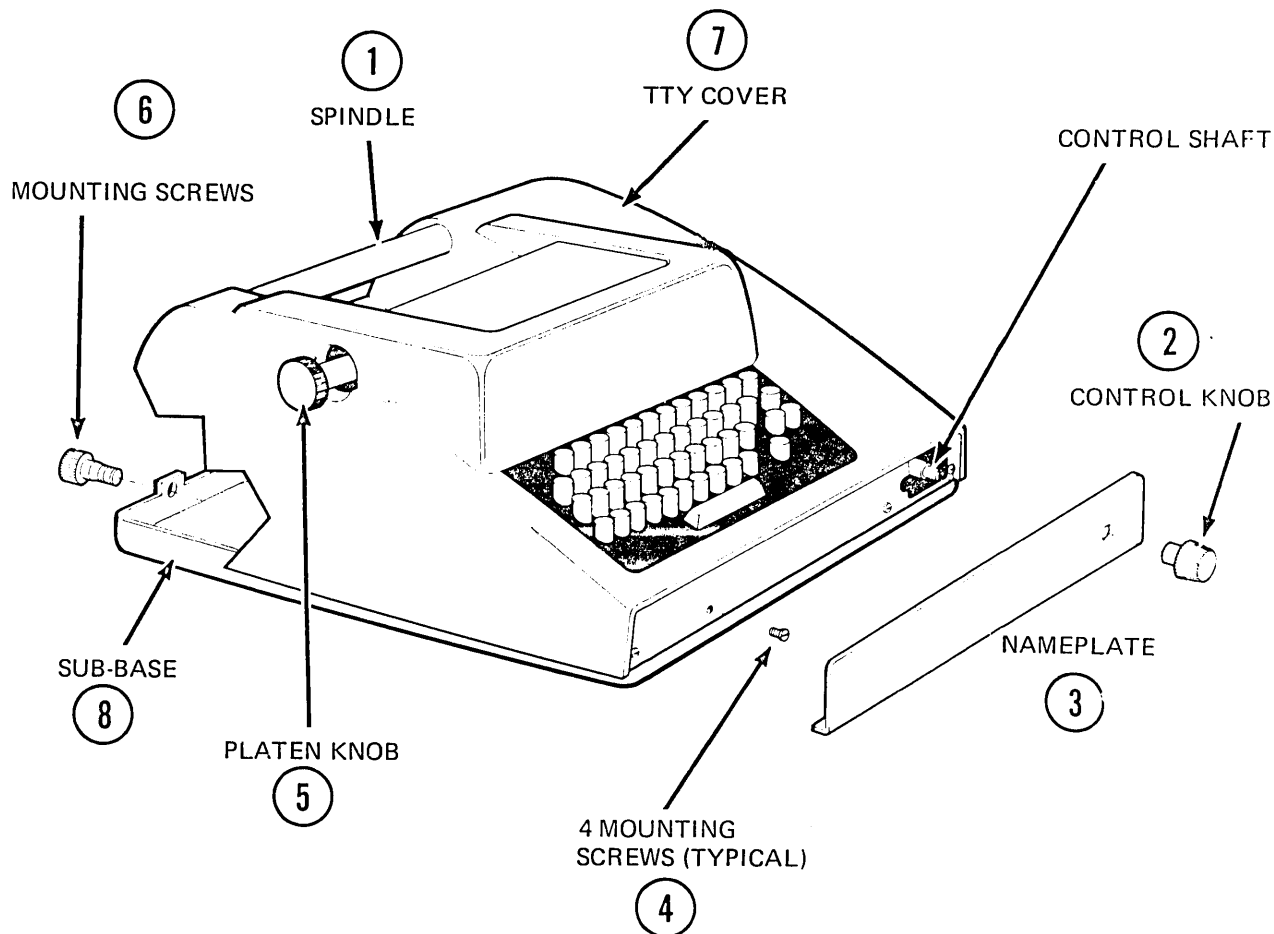

Figure 2.3 Model 33 Teletypewriter Cover Removal
8. On Automatic Send-Receive (ASR) TTYs, unscrew the slot-head screw from the left rear corner of tape reader cover (not shown on Figure 2.3).
9. Gently lift TTY cover (7) straight up from the TTY sub-base (8).